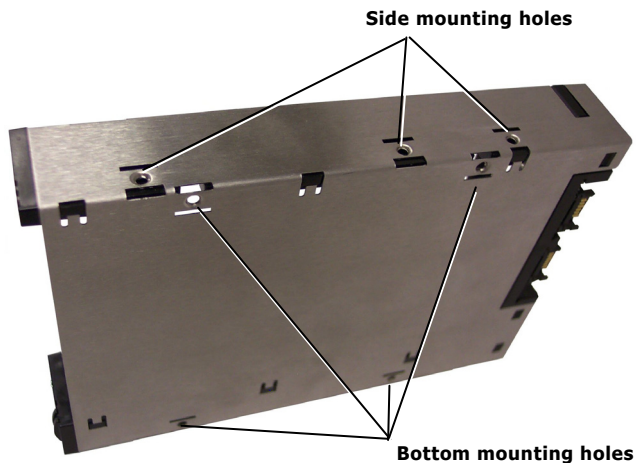

Figure 3 – Location of mounting holes
7. Using the screws provided, secure the frame assembly to the computer case using the frame's side mounting holes (see Figure 3). Your DataPort frame also has bottom mount holes in case you need to bottom mount the unit.